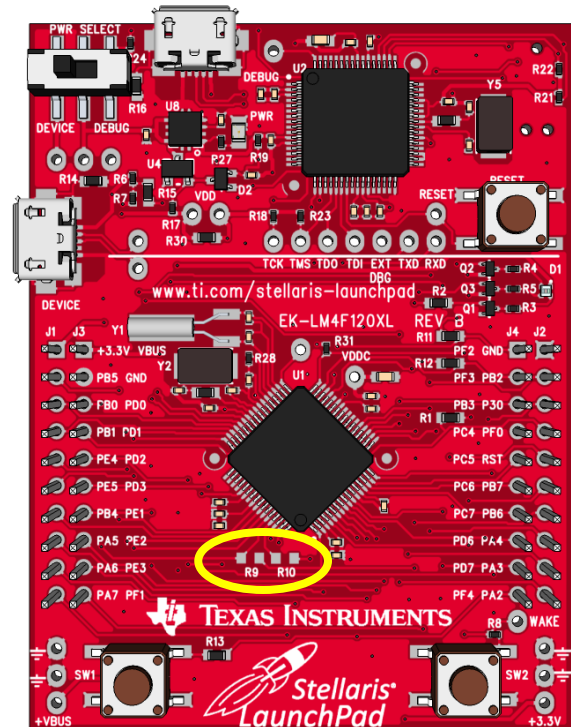

Figure 8 – Stellaris LaunchPad
- 2) Remove R9 and R10 from the LaunchPad. See Figure 8 for the location of these resistors.